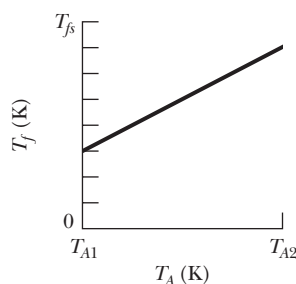

Figure 18-53 Problem 74.
**74** In a series of experiments, block  $B$  is to be placed in a thermally insulated container with block  $A$ , which has the same mass as block  $B$ . In each experiment, block  $B$  is initially at a certain temperature  $T_B$ , but temperature  $T_A$  of block  $A$  is changed from experiment to experiment. Let  $T_f$  represent the final temperature of the two blocks when they reach thermal equilibrium in any of the experiments. Figure 18-53 gives temperature  $T_f$  versus the initial temperature  $T_A$  for a range of possible values of  $T_A$ , from  $T_{A1} = 0\text{ K}$  to  $T_{A2} = 500\text{ K}$ . The vertical axis scale is set by  $T_{fs} = 400\text{ K}$ . What are (a) temperature  $T_B$  and (b) the ratio  $c_B/c_A$  of the specific heats of the blocks?